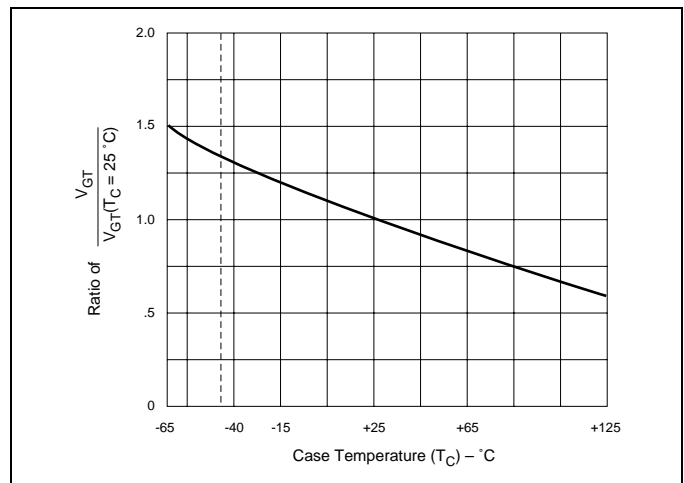

Figure E2.12 Normalized DC Gate Trigger Voltage for All Quadrants versus Case Temperature
- (6) See Figure E2.12 for VGT versus TC.